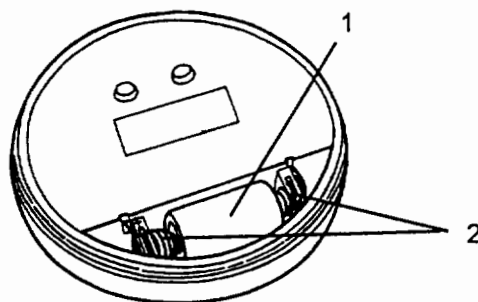

Figure 4-5 — Installing the Battery
408. Remove the rear cover by twisting in a rotating action, remove the battery (1), coat the spring terminals (2) with silicon grease and replace the battery, ensuring the polarity is correct (Fig 4-5).